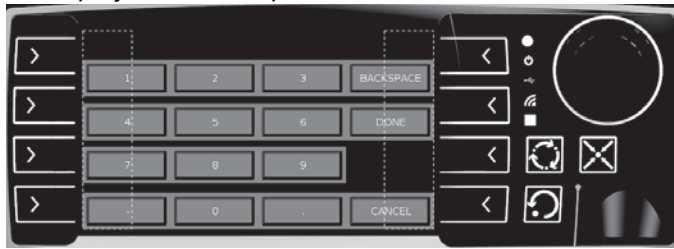

Figure 2-21. Password Entry Page
- See Figure 2-21. The Password Entry page displays. Enter the password.